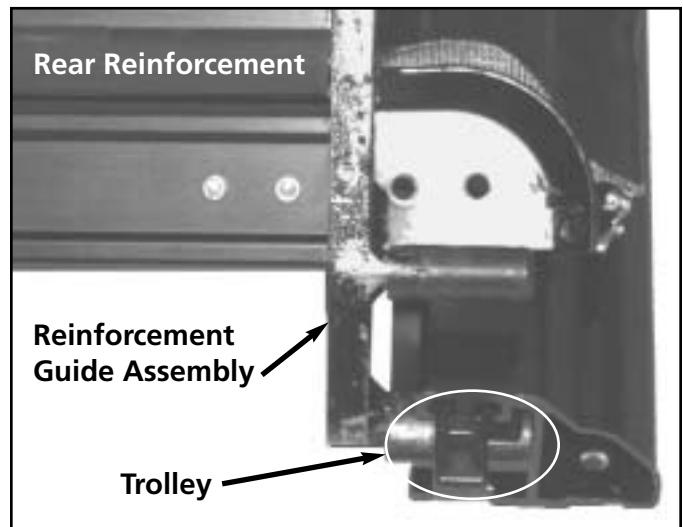

Figure S-57
7. Close the tonno cover. See figure S-57.